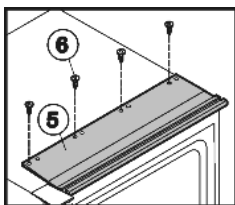

Fig. 31
► Screw on the upper installation contour Fig. 31 (5) by means of four screws Fig. 31 (6) inserted through the pre-cut holes in the profile and appliance.